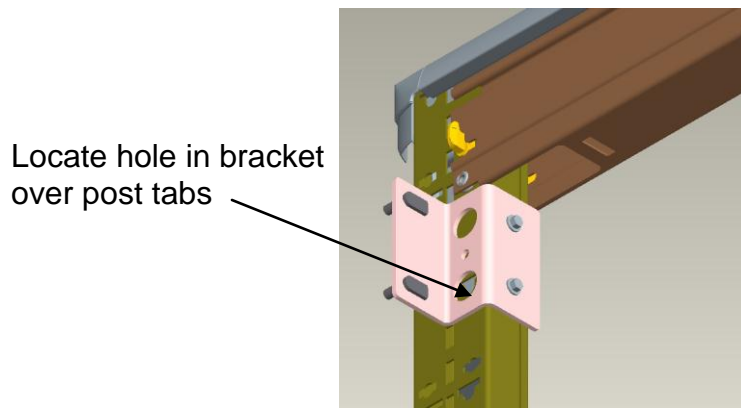

Fig. 4
- 5) Install "upper" *Panel Bracket* (46-2472) to panel end post as in fig. 4. Bracket is located 55" from top of bottom bracket to bottom of top bracket. Ensure the bracket is square horizontally and vertically. Use two #12 *Self-Drilling Screws* (46-9064) to fasten the bracket to the end post.